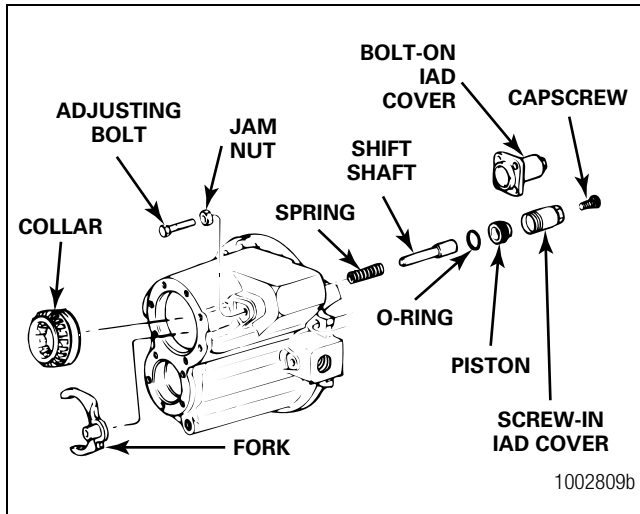

Figure 5.63
1. Inspect the shift shaft for damage. Use an emery cloth to remove any small damage. If necessary, replace the shift shaft. Figure 5.63.